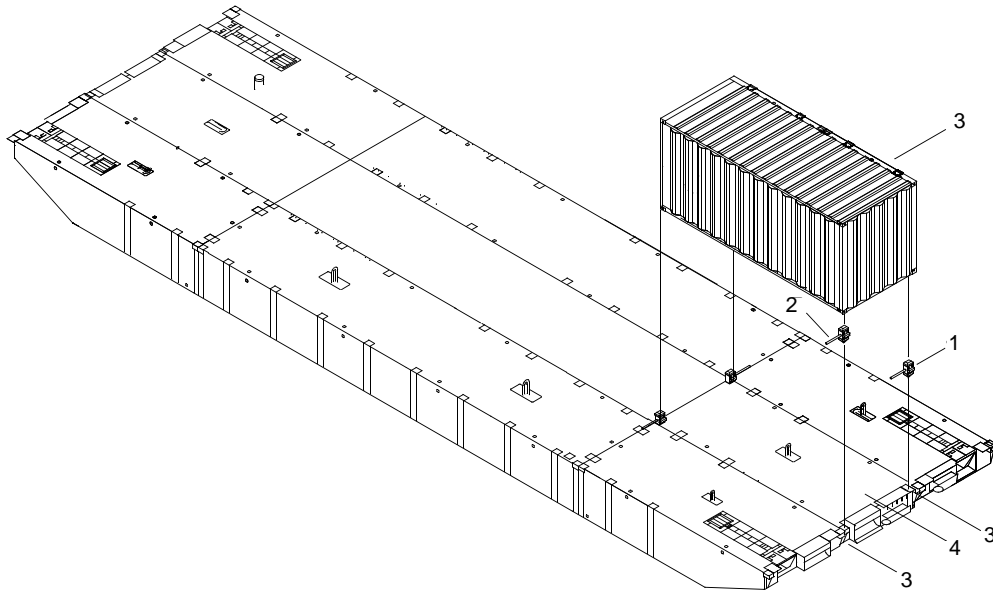

Figure 29. BII Container on FC Platform
2. Unlock four vertical twistlock (figure 29, item 1) by rotating levers (figure 29, item 2) securing BII container (figure 29, item 3) to center end rake (figure 29, item 4).
3. Using crane, remove BII container (figure 29, item 3) from center end rake (figure 29, item 4).
6. Stow four vertical twistlocks (figure 29, item 1) from BII container (figure 29, item 3).
9. Position four vertical twistlocks (figure 29, item 1) in ISO corner fittings (figure 29, item 3) on center end rake (figure 29, item 4).